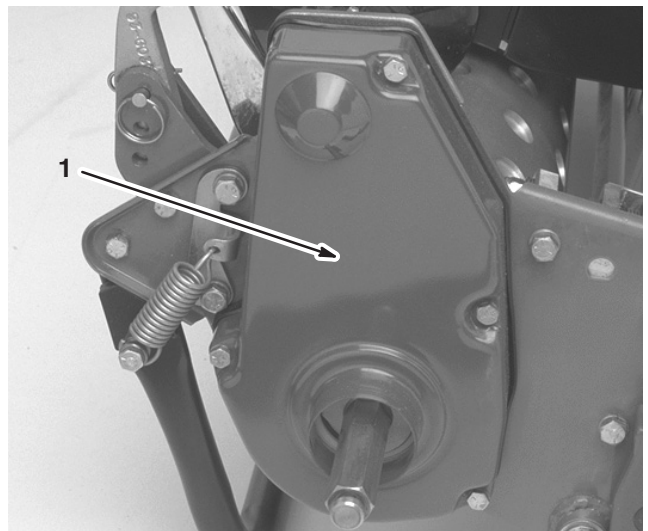

Figure 36
1. Remove the belt cover mounting screws and belt cover to expose the belt (Fig. 36).